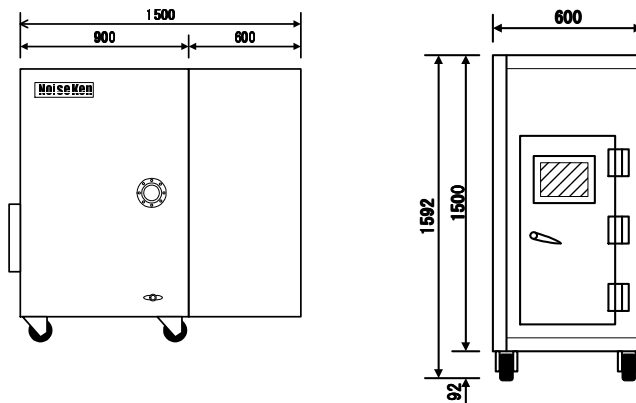

Fig. 6
3) Size	Refer to Fig. 6 below.